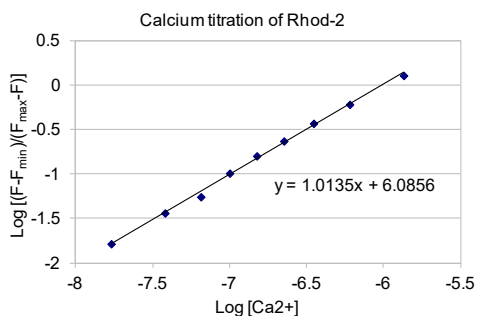

Figure 1. Example of a calcium calibration curve for Rhod-2 ($K_d = 1 \mu$ M).
8. Plot $\log\left\{\frac{(F - F_{min})}{(F_{max} - F)}\right\}$ vs. $\text{Log}[Ca^{2+}]$. Make sure that the unit of [Ca²⁺] is in M. The X-intercept from the linear plot is $\text{Log}K_d$ (M). See Figure 1 for an example.